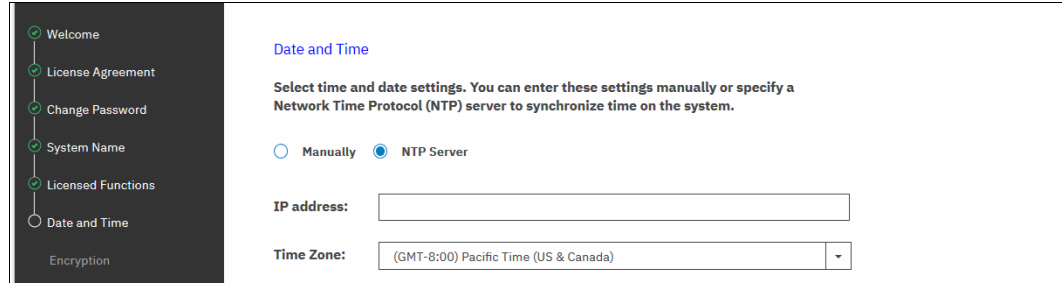

Figure 3-15 System Setup: Setting the date and time
- Enter the date and time settings. In the example that is shown in Figure 3-15, the date and time are set by using an NTP server. Generally, use an NTP server so that all of your storage area network (SAN) and storage devices have a common timestamp. This practice facilitates troubleshooting and prevents time stamp-related errors if you use a key server as an encryption key provider.